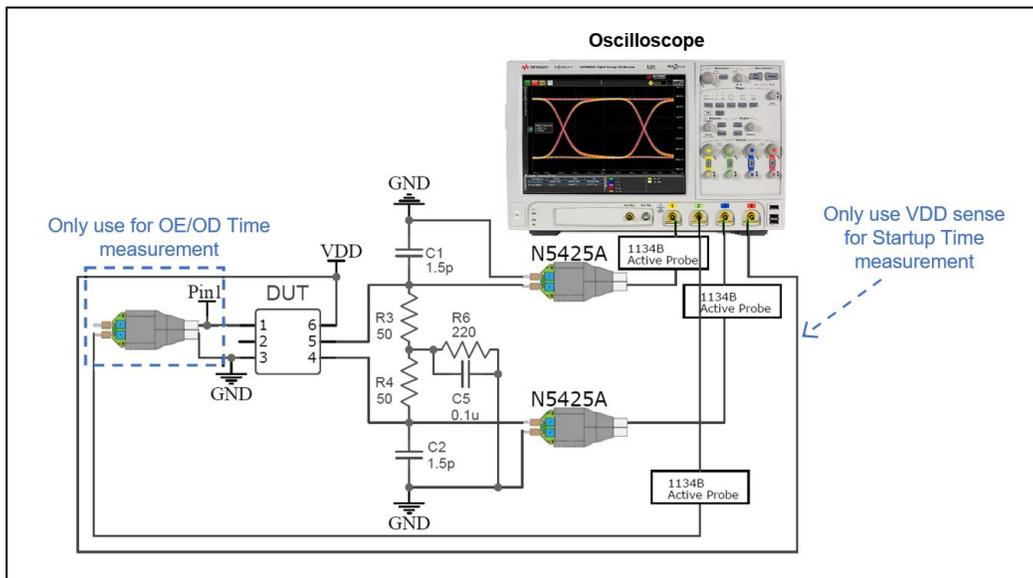

Figure 7. Test setup to measure FlexSwing Output Waveform Characteristics, Current Consumption[17], Output Enable/Disable Time, and Startup Time
- 14. See Figure 7 for the test setup to measure LVPECL Current Consumption with Termination 1 or without Termination.